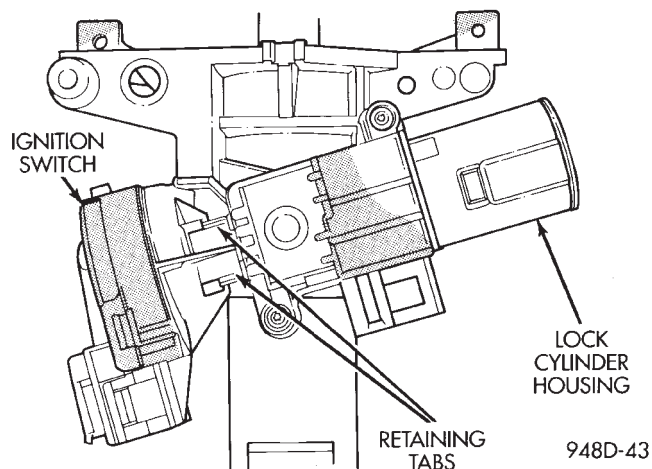

Fig. 60 Ignition Switch—Viewed From Below Column
The ignition switch attaches to the lock cylinder housing on the end opposite the lock cylinder (Fig. 60). For ignition switch terminal and circuit identification, refer to Group 8W, Wiring Diagrams.
(15) Depress retaining tabs (Fig. 60) and pull ignition switch from steering column.